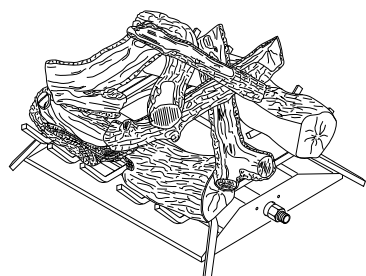

Figure 10 - Placement of Top Logs
5. Place the smaller top logs onto the bottom logs (see Figure 10). Leave as much open space between logs as possible to minimize flame impingement and sooting. **Note:** Logs may chip if they are handled roughly or if hit together while being placed.